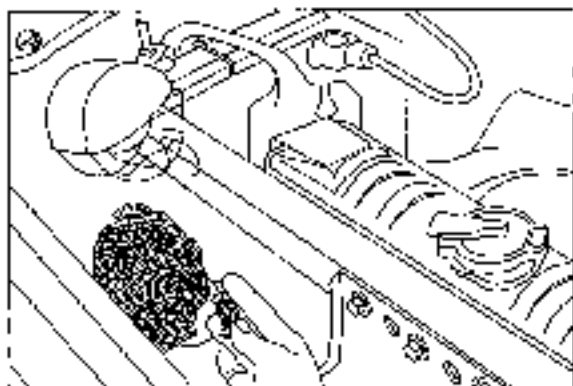

Figure 20-2:
- ✓ If the horn is stuck, your vehicle is producing what may be the worst noise it can make. Before this happens, have someone honk your horn until you can locate it under your hood. There are usually two horns. Each has a wire leading to it. If your horn gets stuck, pull these wires to stop the noise (see Figure 20-2) — sometimes you have to pull only one. When you have the horn fixed, tell the mechanic that you pulled the wires and find out why the horn got stuck. (If you can't get at the horn wires, disconnect one battery terminal or pull the fuse that goes to the horn to stop the noise.)